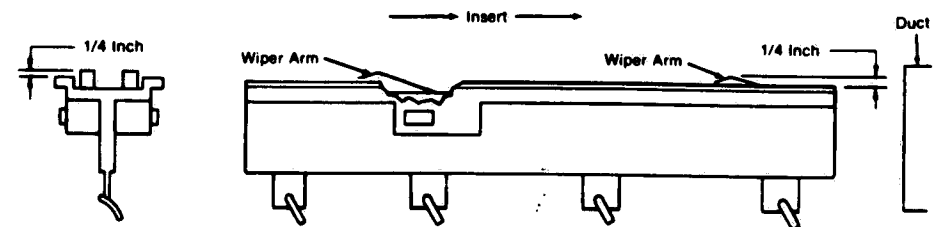

Figure 4-7. PLASTIC TROLLEY.
d. Additional binding can occur if, when inserting the plastic trolley into the duct, the wiper arms catch and bend over, due to improper adjustment. Remove the plastic trolley (15, Figs. 5-5 thru 5-5E) and straighten wiper arms. Adjust wiper arm contacts so that the distance between the top of the plastic trolley and the top of the wiper arm contact is $1/4 + 1/32, -0$ inch. See Figure 4-7.